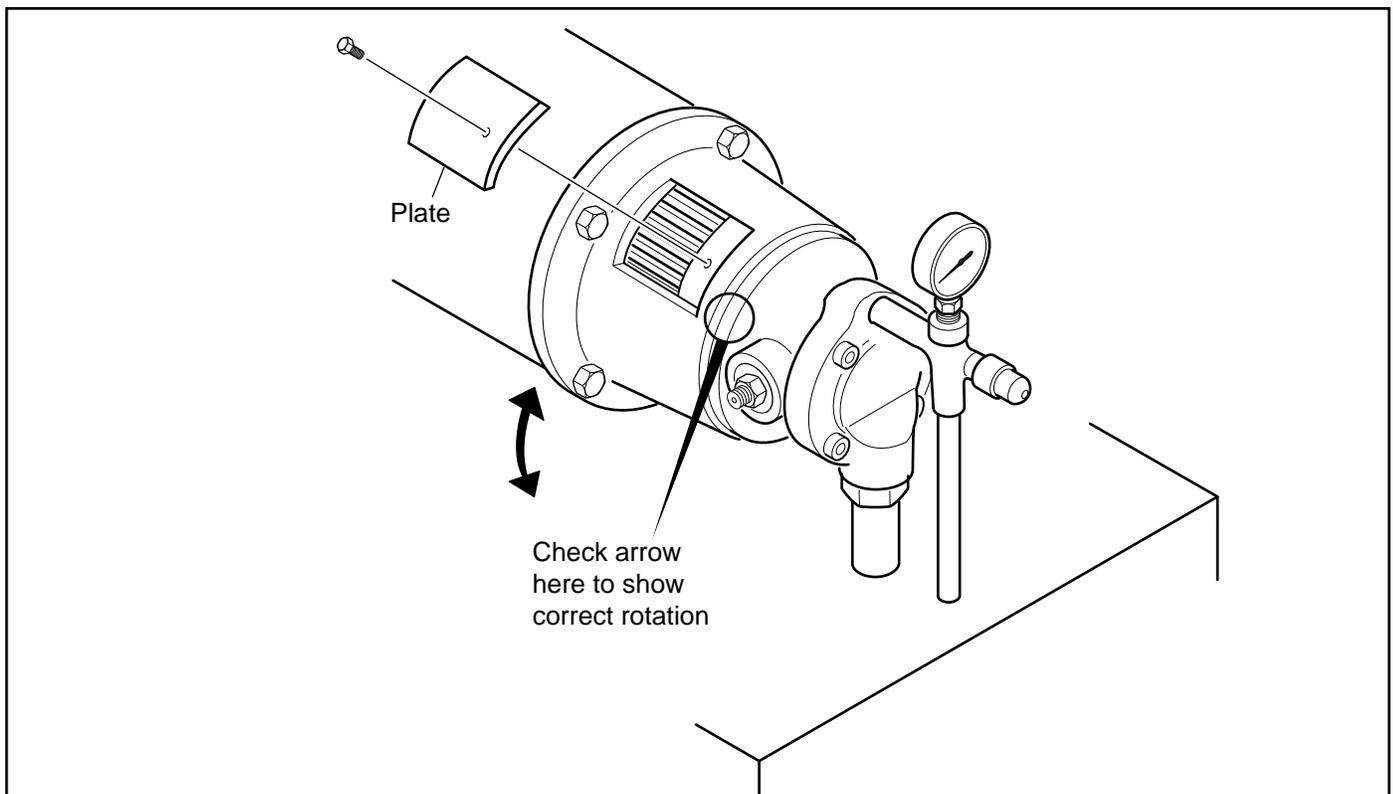

Figure 3.6 Check Pump Rotation
2. Push starter. Check pump rotation as shown in Figure 3.6.